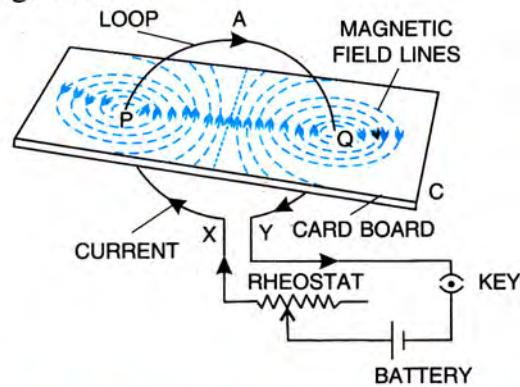

Fig. 10.4 Magnetic field due to current in a loop
**Experiment :** Take a piece of thick wire A bent in the form of a loop (or coil). It is passed at two points P and Q through a horizontal cardboard C such that the points P and Q lie in a plane through the diameter of the coil. Then sprinkle some iron filings on the cardboard. Connect a battery through a rheostat and a key between the ends X and Y of the loop as shown in Fig. 10.4.
in a definite pattern representing the magnetic field lines of the current carrying loop (Fig. 10.4). To find the direction of magnetic field lines, a compass needle is used. The direction of magnetic field at a point is along the needle in direction in which its north pole points. An arrow is marked on each magnetic field line to indicate the direction of magnetic field.